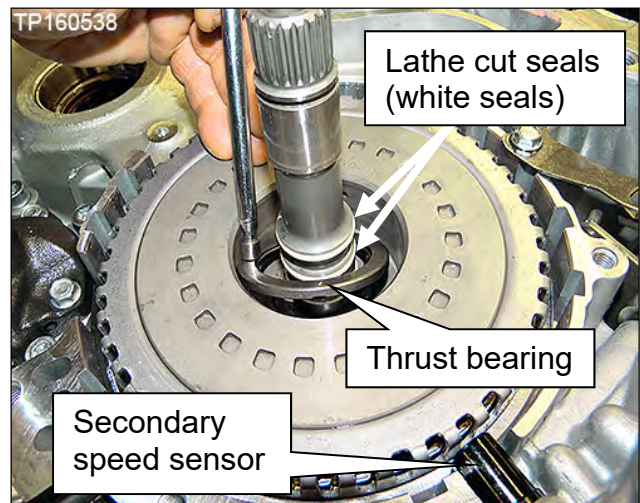

Figure 49
30. Remove the thrust bearing from the clutch assembly bore (Figure 49).
31. Wipe any metallic debris from the face of the secondary speed sensor (Figure 49).